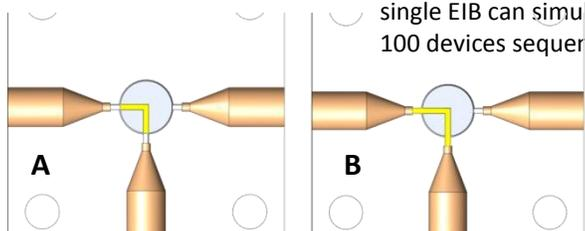
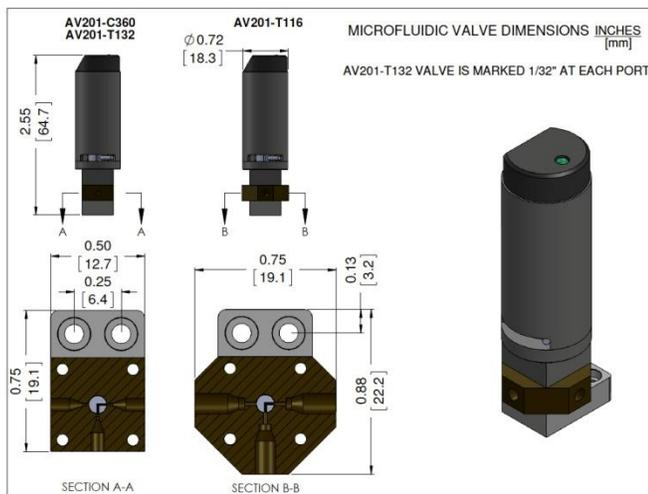
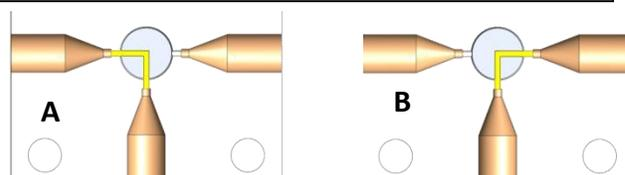

Figure 4. (A) Swept volume (B) Valve volume illustrated using AV201 example.
Figure 5. AV201 series and AV202-C360 valve dimensions.*
Figure 6. Fluid flow through AV201 valve when valve is switched between (A) Position A and (B) Position B.
LabSmith's CapTite™ AV201 automated, three port, two-position valves (Figure 3) deliver programmable, "L" pattern flow routing (Figure 4) in a fraction of the footprint required with most valves (Figure 5). AV201 valves operate at pressures up to 10 kpsi for use with 360 μm, 1/32" or 1/16" tubing.
LabSmith's AV202 automated four port, two-position valves (same footprint (Figure 5) and packaging (Figure 3) as the AV201-C360 three port valves. The four port valves allow for simultaneous operation of two syringe pumps, one in fill mode and one in dispense, for the uninterrupted delivery of solution during low flow rate, long term, 1-10 milliliter total volume experiments. Figures 6 and 7 show the AV201 and AV202 valve positions and corresponding fluid flow, respectively. All valve models feature zero dead volume connections, nanoliter swept volumes (Table 1), rapid flow response time, low carryover, and inert, durable wetted materials. All valves include holes for breadboard mounting. Both AV201 and AV202 valves have a switch time of 0.4 seconds from position A to B and vice versa.
*AV202 and AV201 valves have identical housing and footprint. Labeling and wettable geometries differ and are shown in Figures 4, 6-7 above.